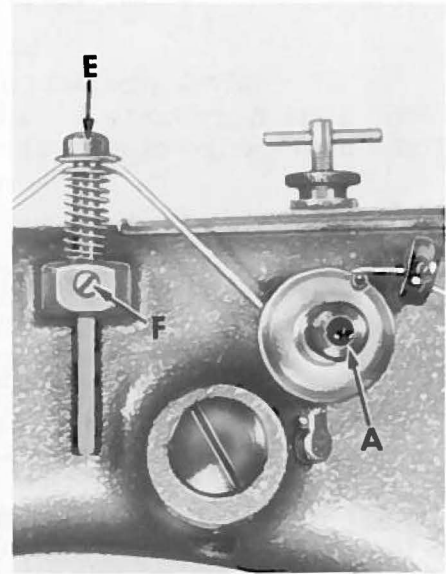

Fig. 6A
On Style 80800 F, adjust the tension on needle thread nipper (E, Fig. 6A) by loosening screw (F) and raising or lowering needle thread nipper support pin to increase or decrease tension as required to suit sewing conditions. Retighten screw (F).